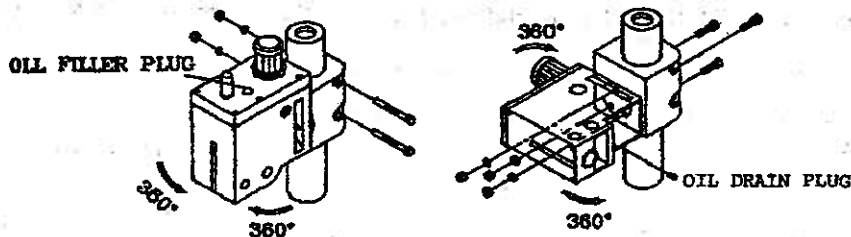

Fig. 4
a) To raise and lower the head, loosen the two heavy duty head lock nuts shown in Fig.4. Use the left side head handle to raise and lower the head on its rack and pinion mechanism. When the desired height is reached, tighten the bolts to avoid vibration.